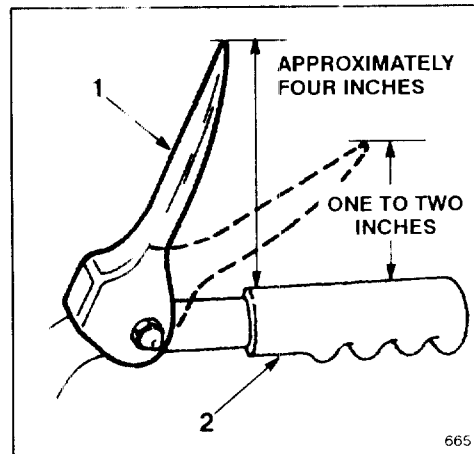

Figure 7
6. Slowly pull machine backward while slowly depressing traction control lever toward handle. Adjustment is correct when wheels stop turning and the distance between the top of the handgrip and the bottom of the traction control lever is one to two inches (Fig. 7). Readjust the two flange nuts, if neces-